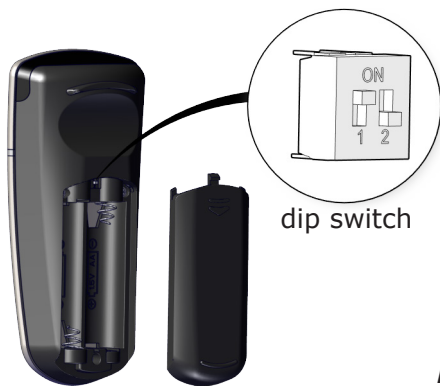

Fig. 1
2. Locate dip switch labeled 'SW3' (Fig. 1).
3. Change BOTH dip switch configurations to one (1) of four (4) possible options: